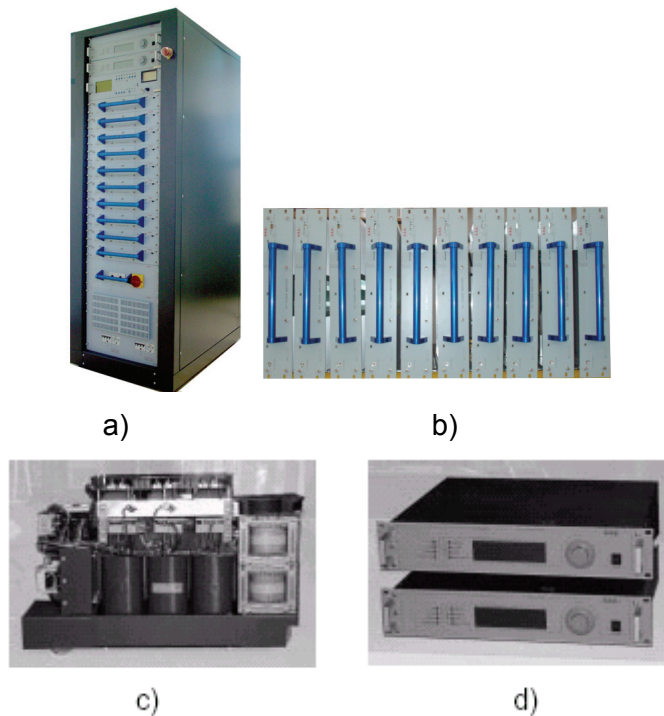

Figure 5-1 Components of the PJ10KPS-C
- The rack (various components are assembled, such as the coupler, the splitter, the control unit, the main blower) [Figure 5-1 a)]
- The 10 RF modules [Figure 5-1 b)]
- One or two transformer/rectifier carriages [Figure 5-1 c)]
- The exciters [Figure 5-1 d)]. (As a rule the amplifier is supplied as a complete transmitter. This example shows two PTXLCD exciters produced by R.V.R. Elettronica. Usually the exciters are pre-assembled inside the rack).